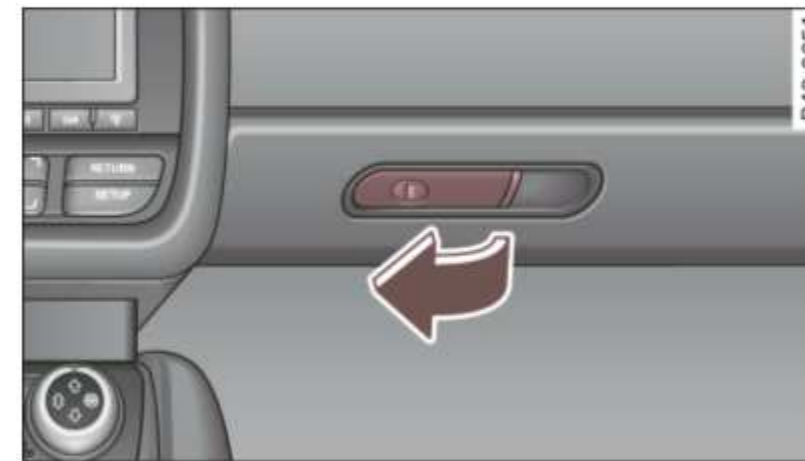

Fig. 61 Glove compartment
- Pull the handle ⇒ fig. 61 in the direction of the arrow, push down lid to the fully open position.